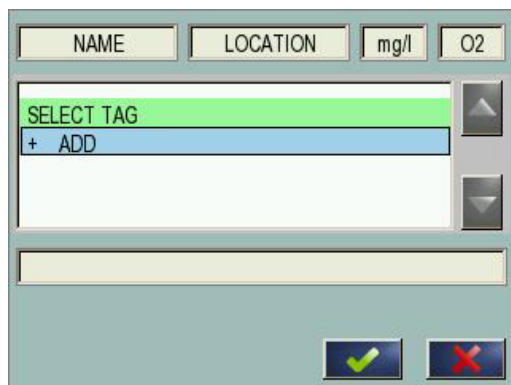

Figure 50 Main menu of the formula editor
2. The main menu of the formula editor is displayed (Figure 50). Tap on the text fields to edit the Name, Location, Unit, Parameter and Formula.